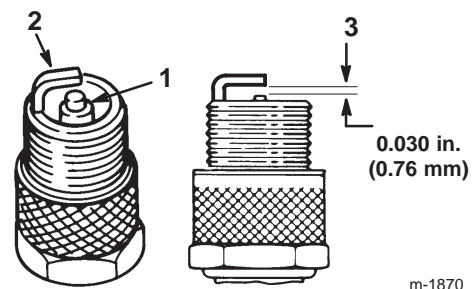

Figure 26
1. Look at the center of the spark plug (Fig. 26). If you see light brown or gray on the insulator, the engine is operating properly. A black coating on the insulator usually means the air cleaner is dirty.
2. Check the gap between the center and side electrodes (Fig. 26). Bend the side electrode (Fig. 26) if the gap is not correct.